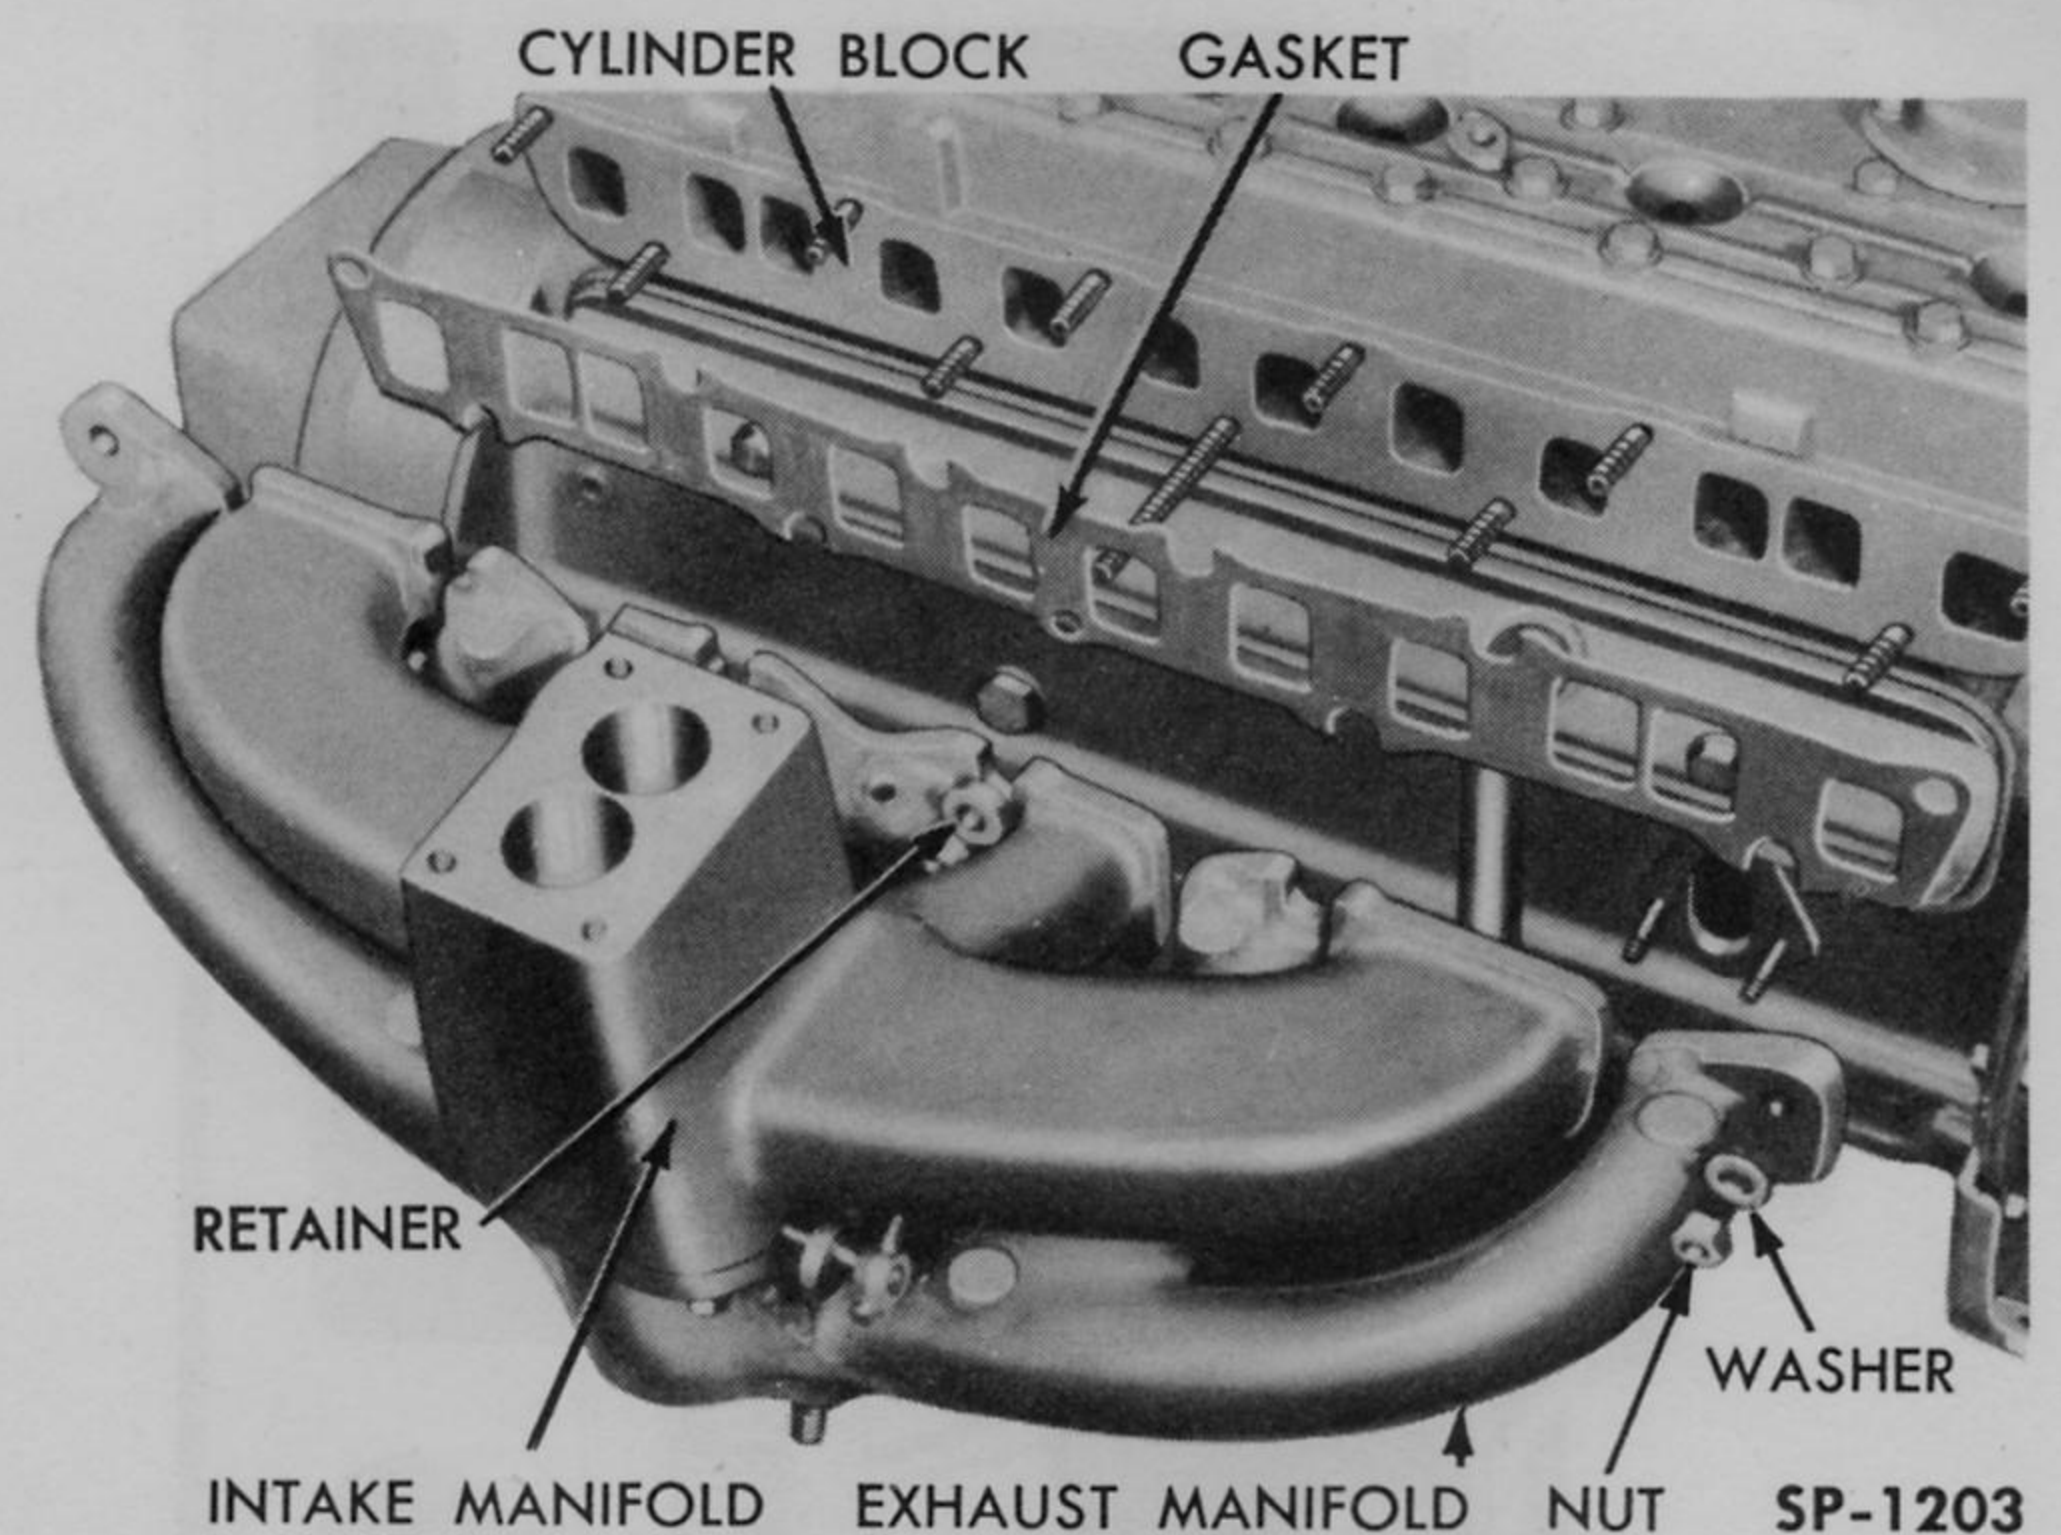

Fig. 98—Manifold Installation—Exploded View
x. INSTALL MANIFOLDS. Assemble the intake and exhaust manifolds before installing them on the cylinder block. Refer to Section 3, "Exhaust," for additional information. Make certain that no foreign objects are inside the manifolds, and that all passages are clear. Place the manifold gasket in position on the side of the cylinder block. Then, carefully slide the manifolds onto the studs and against the cylinder block, being careful not to damage the gasket. Hold the manifolds in that position while a retainer and nut are assembled on one of the top studs to support the manifolds. Install retainers and nuts on all manifold studs except the top end and lower center studs, on which a plain washer and nut are used. Tighten all nuts to 30–35 foot pounds torque, starting from the center of the manifold and working out toward the ends. A typical intake and exhaust manifold assembly is shown in Fig. 98, in position for installation.